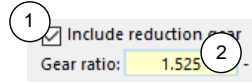

Figure 11. Specifying the reduction gear ratio of the electric motor
On the other hand, when this checkbox is checked, an additional parameter field ② appears to specify the reduction gear ratio (Figure 11.)